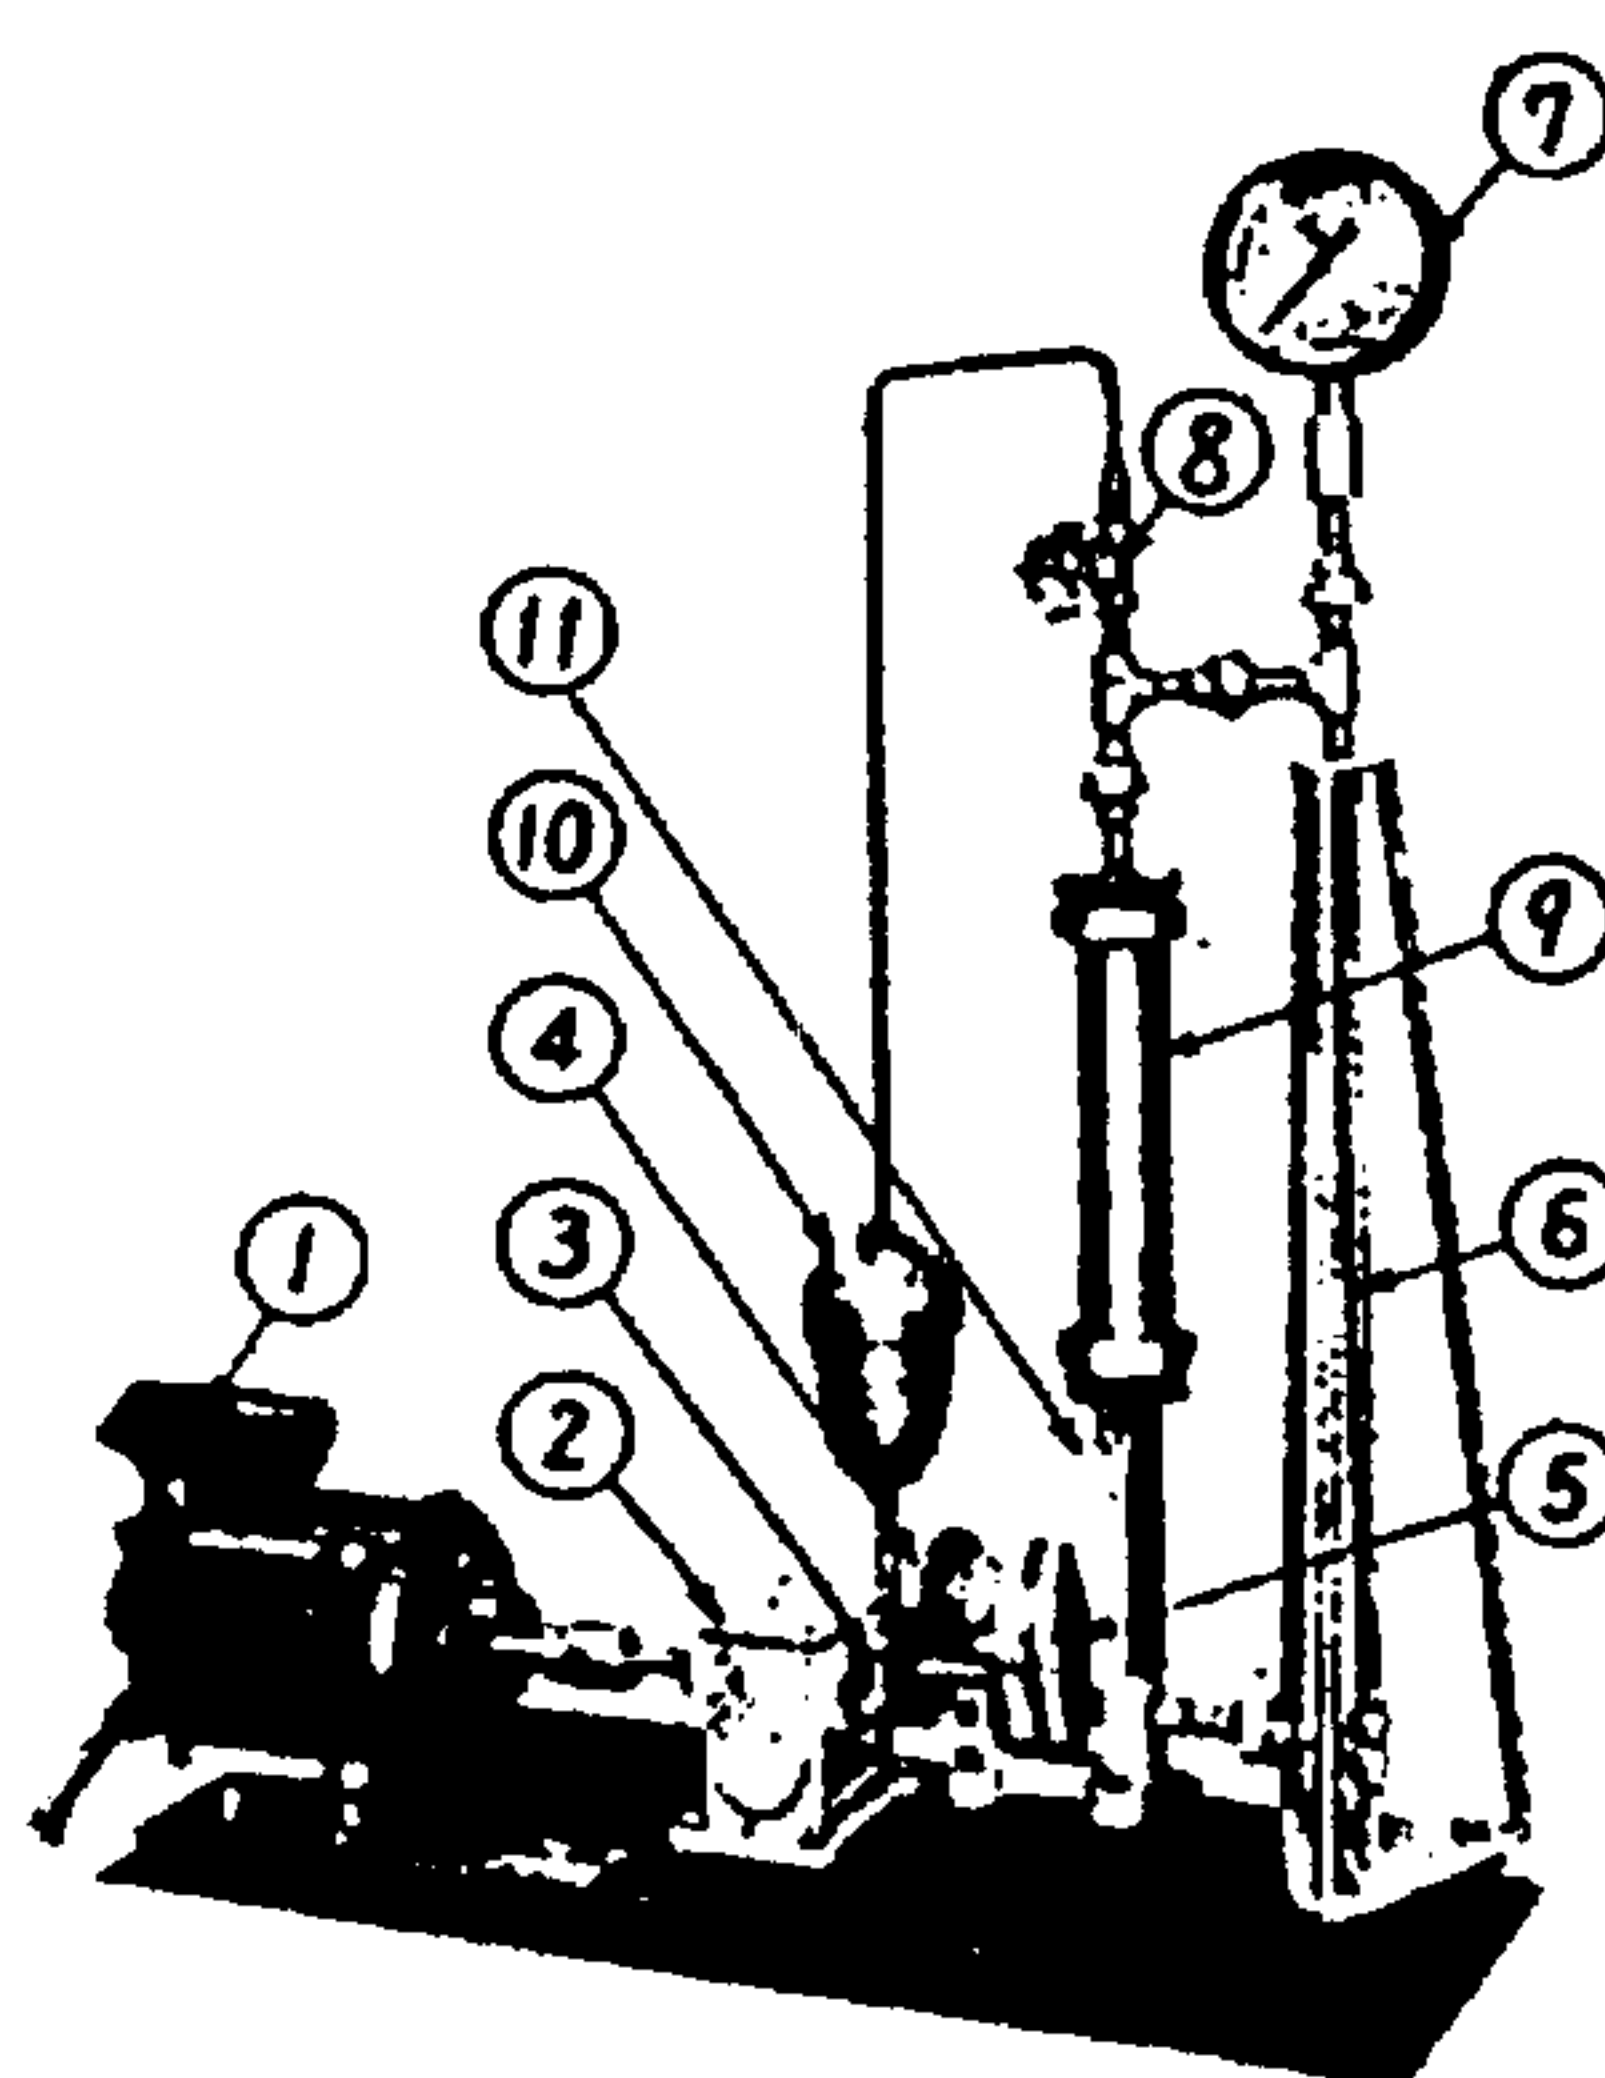

Fig. 1 Appearance viscosity tester
This shall be shape and dimension shown in figure 1 ~ 2 and consist of parts of (1) ~ (5).
Appendix : When testing at temperature except room temperature, test putting grease in constant temperature reservoir or air tank kept to be test temperature ± 0.5 in figure 1.